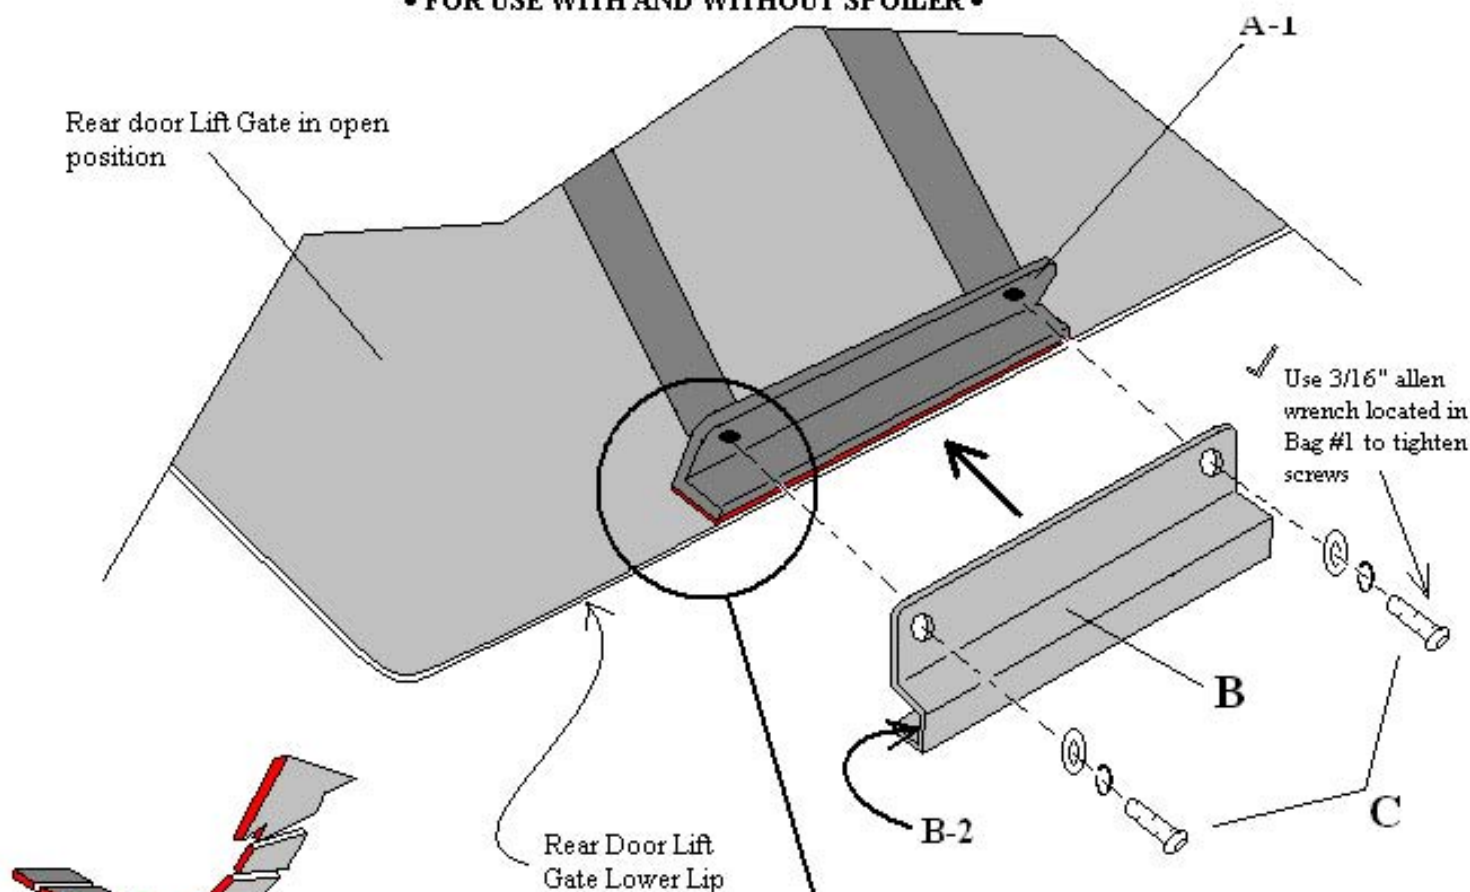
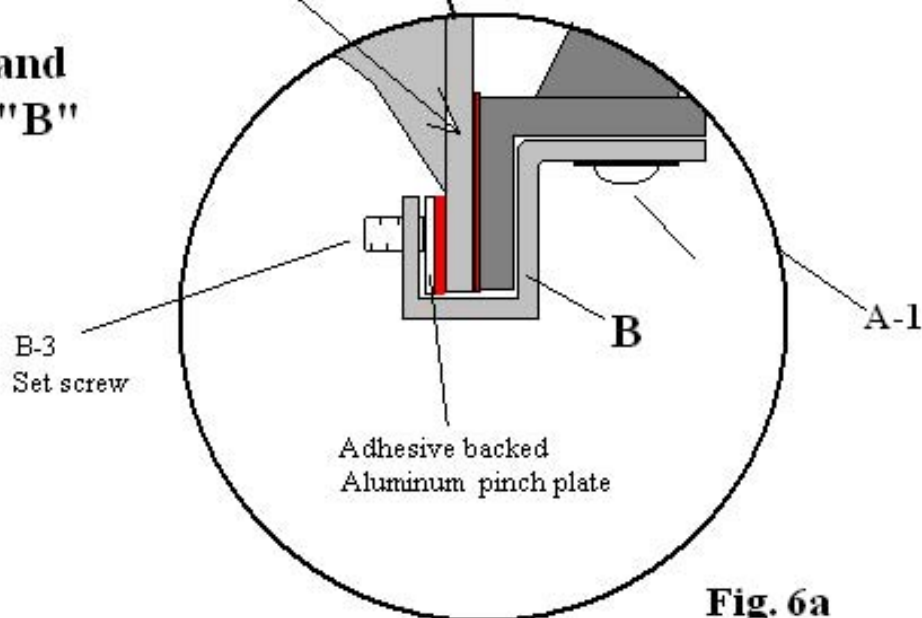

Fig. 6
Fig. 6a
- 8- Refer to page 8 Fig. 6 and Fig. 6a with the help of another person while still holding the ladder against the lift gate rear door open lift gate and install clamp "B" to the bottom of ladder "A-1" and rear door lift gate as shown in Fig. 6 using two stainless 5/16" x 1" button head screws, lock washers and flat washers "C" located in your hardware kit. Thread the screws completely into the ladder using the 3/16" Allen wrench supplied in your kit and fully tighten at this time. Continue to the inside of clamp "B" and fully tighten screws "B-3" using the Allen wrench supplied in your kit as shown in Fig. 6a.